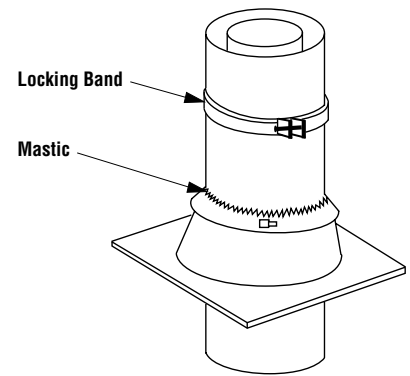

Figure 32
Step 8. The standard Security Chimneys FTF8 roof flashing assemblies include a storm collar. Slide the storm collar over outer chimney, rest on flashing spacers and align with top surface of flashing. Insert tab in slot, pull tight and bend tab back over slot. Seal storm collar to outer chimney with roof caulking or mastic around entire circumference of pipe. Also add extra roof caulking to the tab/slot area to seal completely against water penetration (*Figure 32*). Check all joints very carefully to ensure no water intrusion can take place.
Step 9. Security Chimneys locking bands, Model FLB, may be required if the chimney extends too high above the roof flashing. As a general rule, if the chimney extends more than 6' above the roof flashing, the use of locking bands is advisable to strengthen the chimney assembly. Align the locking band at the chimney joint. Locking bands wrap around pipe joints equally covering the joints of both pipe sections. Use the nut provided and TIGHTEN snugly. Do not overtighten as this might damage the chimney section (refer to *Figure 32*).